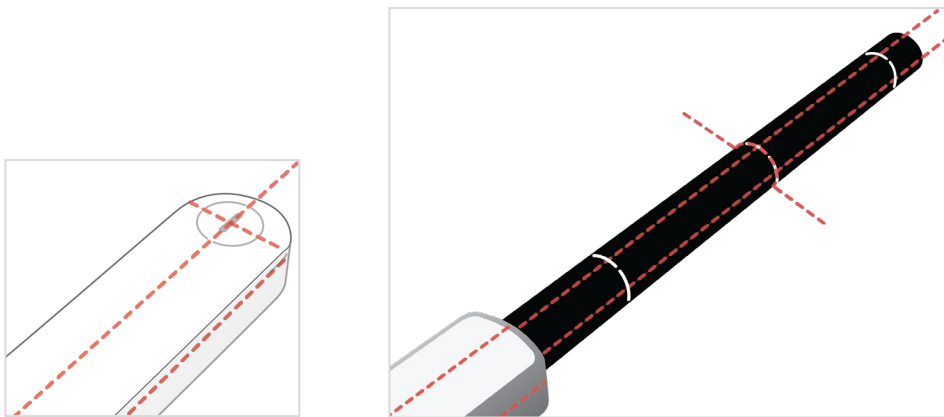

Figure 1 RaySafe X2 sensor positioning in isocenter.
1. Position the **X2 R/F sensor** at the isocenter, see figure 1. Make sure that the R/F sensor area can be fully exposed.
3. Change to the **X2 CT sensor**. Position it at the isocenter, see figure 1. Make sure that the whole beam is within the 10 cm outer markings on the CT sensor during the whole exposure.
4. Change to the **X2 CT sensor**. Position it in the isocenter, see figure 1. Make sure that the whole beam is within the 10 cm outer markings on the CT sensor during the whole exposure.